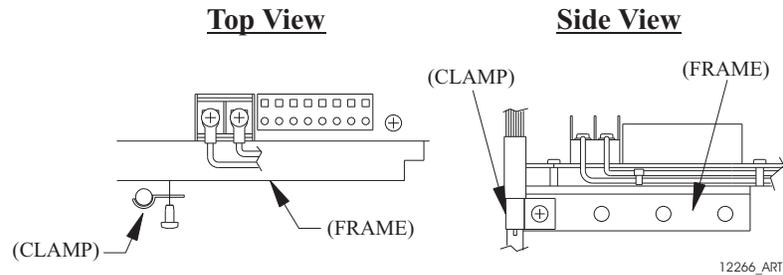

Figure 4-8: Clamp Views
- Secure the seven-conductor cable to the frame using a conductive Clamp. Ensure that the Clamp and Shield wire come in contact with one another. Refer to Figure 4-8: Clamp Views.